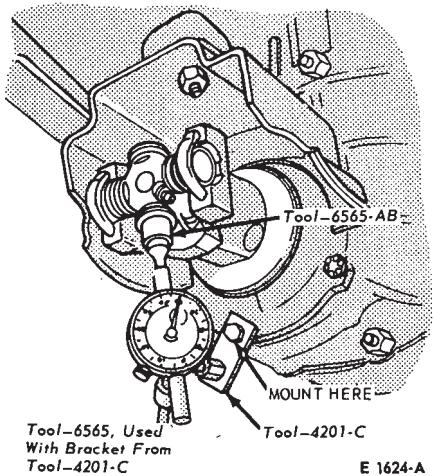

FIG. 8—Cross Shaft Runout Check—Typical
Rotate the companion flange 90 degrees and position the dial indicator adapter on the machined end of the exposed journal (Fig. 8). **Be sure the end surface of the exposed journal is perpendicular to the indicator cup-type adapter.** This requires that the cross-shaft be moved fore and aft on the flange bearing cups. Note the point at which the indicator hand reverses direction. Rotate the flange assembly side-to-side until the cross-shaft is perpendicular to the pinion shaft axis, and the indicator hand reverses direction. Zero the dial indicator and check the zero point again by slightly moving the cross-shaft fore and aft, then rotate the companion flange from side-to-side.
8. With the indicator at zero, carefully retract the dial stem and rotate the flange 180 degrees. Rotate the cross-shaft 180 degrees on the flange bearing cups to position the exposed journal under the dial indicator adapter. Rock the cross-shaft fore and aft and the companion flange side-to-side to establish the point at which the indicator hand reverses direction. This will determine the driveshaft universal cross-shaft run-out. Record this reading (Fig. 8).